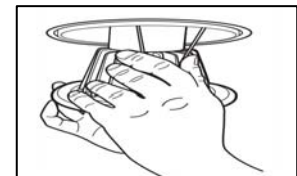

Figure 6
- Once all connections are complete, squeeze each pair of torsion springs together and seat inside of brackets in fixture. Release springs, and gently push trim into fixture until flush with ceiling. (Figure 6)
5. Once all connections are complete, squeeze each pair of torsion springs together and place into brackets inside fixture. Releases springs, and gently push trim into fixture until flush with ceiling. (See Figure 6)